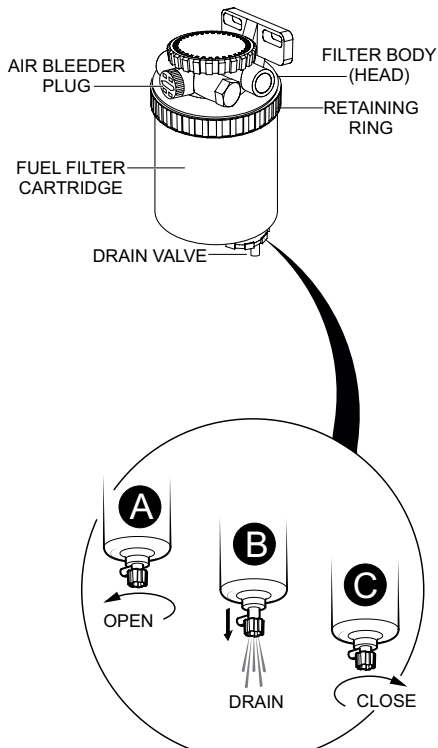

Figure 61. Fuel Filter Draining
Inspect the fuel filter **daily**. If the fuel filter (Figure 61) has collected a significant amount of water and sediment at the bottom of the cartridge, it should be drained off immediately.
1. Loosen the air bleeder plug (Figure 61) on the fuel filter body.
2. To discharge the fuel inside the fuel filter cartridge **OPEN** the drain valve on the fuel filter by turning the knob **counterclockwise (A)** approximately 3-1/2 turns until the valve drops down 1-inch (25.4 mm) and draining occurs (**B**).